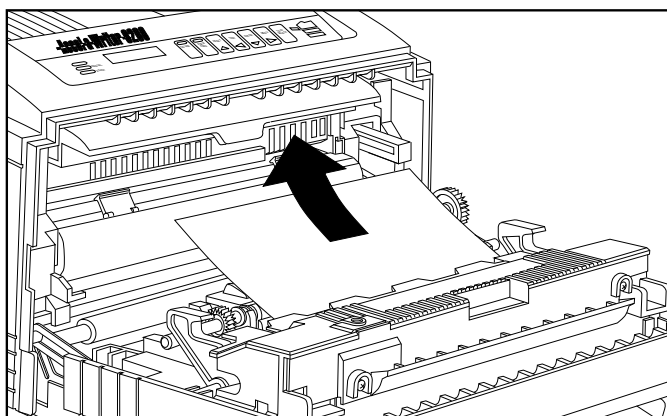

Fig. 10.3 Remove Media from the Fuser Area
- a. If any part of the media comes out of the fusing unit on the inside toward the printer, pull the media out in the direction of the arrow in figure 10.3.
- b. If the media has passed through the fuser unit and only appears toward the outside of the printer, pull the media in the opposite direction of the arrow in figure 10.3.